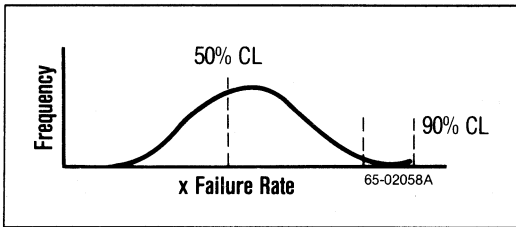

Figure 2. Frequency vs. Failure Rate
Since the data for the failure rate calculations is derived from a sample of devices out of a production lot, a confidence level number is usually stated for the failure rate. A 90% confidence level (CL) has become a common number. The confidence level is demonstrated by the distribution curve shown in Figure 2.